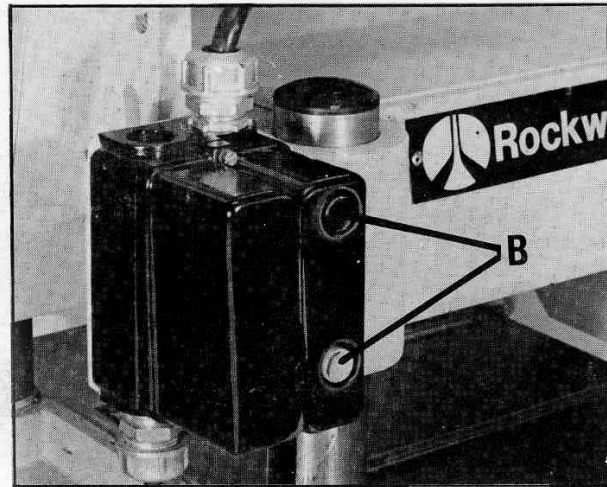

Fig. 38
The ON-OFF switch for Three Phase machines is located on the switch box, as shown at (B) Fig. 38.